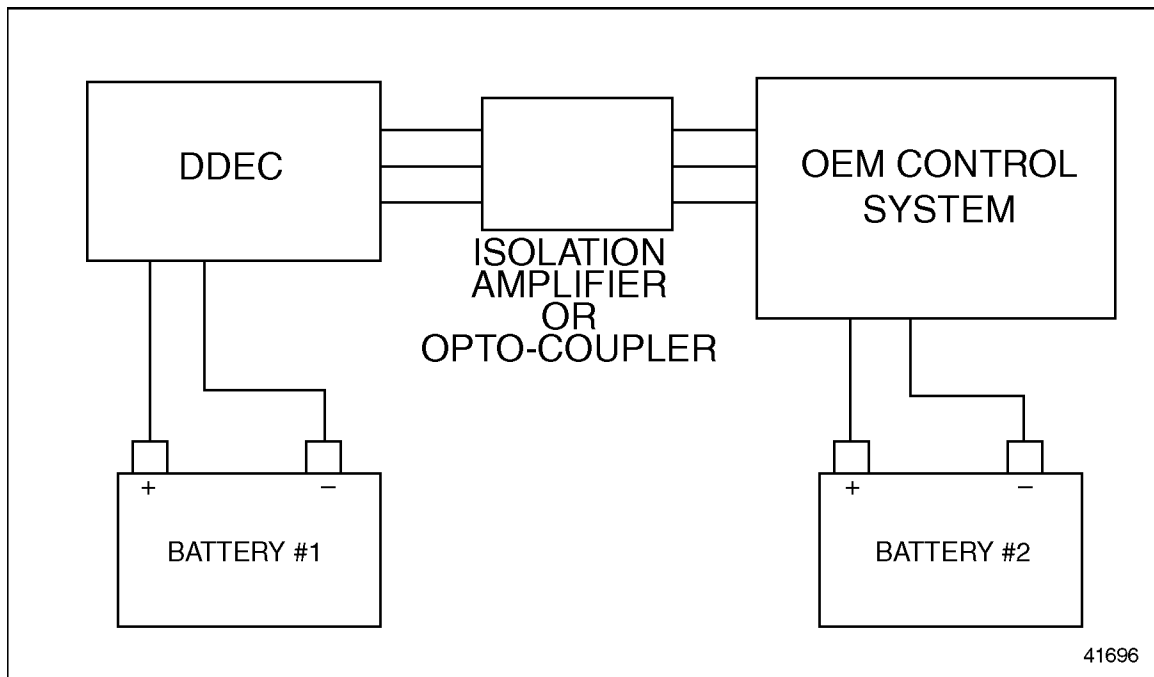

Figure 3-26 DDEC Circuit Isolated Using an Isolation Amplifier
- The DDEC circuit must be isolated using an isolation amplifier (see Figure 3-26).